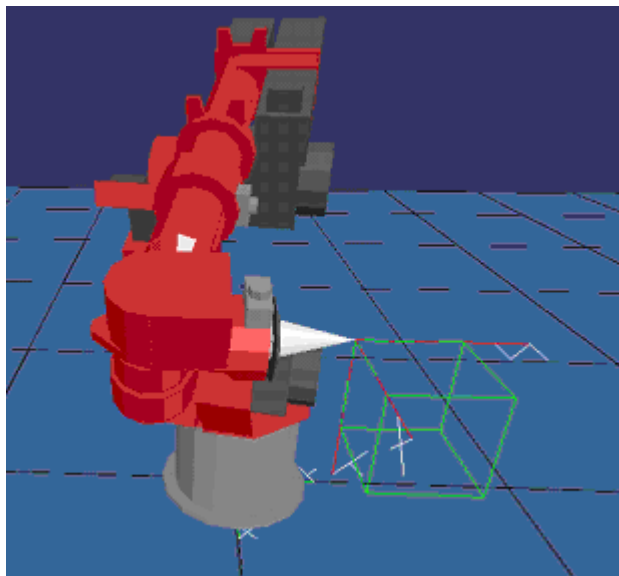

Fig. 2.19 6DOF robot drawing a cube
9. Write a control program that for the robot's tool-tip follows a 3D path along Cube's edges, as shown in Fig. 2.19. **GRADE 4**